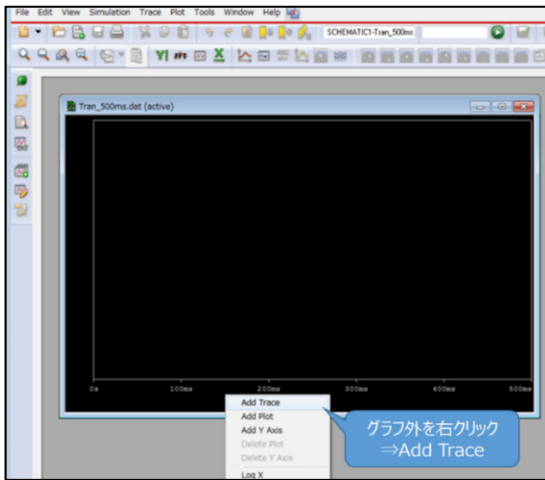

Figure 5.5 Graph window
1. Right-click outside the graph area and select **Add Trace** as shown in Figure 5.5.